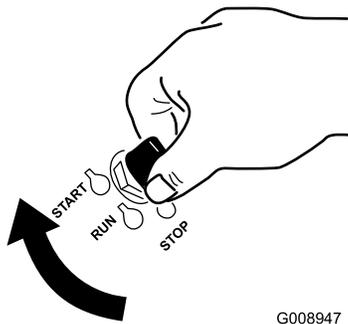

Figure 14
1. Turn the ignition key to the Start position (Figure 14). When the engine starts, release the key.
7. Turn the ignition key to the Start position (Figure 14). When the engine starts, release the key.